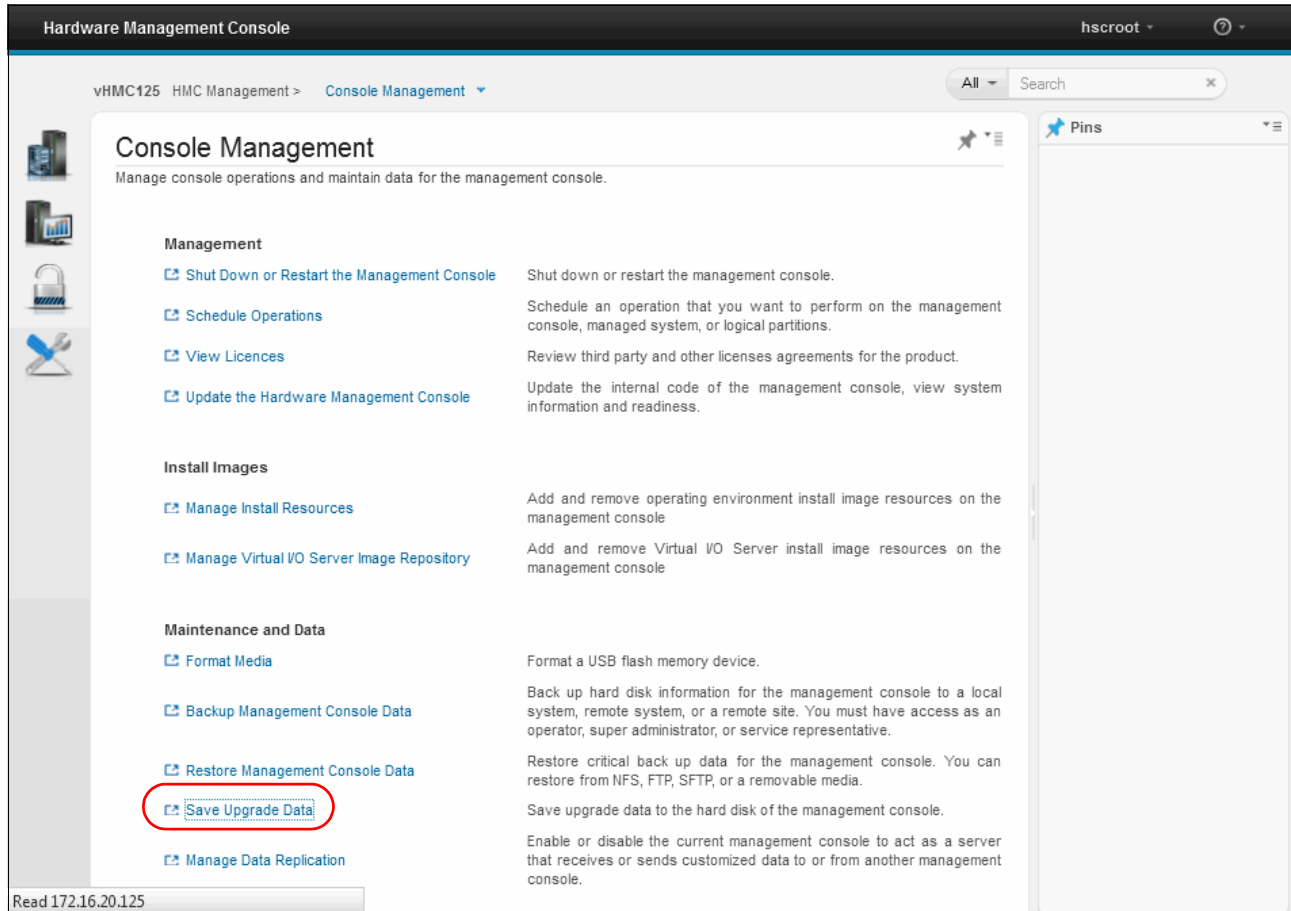

Figure 3-123 Save Upgrade data
1. In the navigation pane, click **HMC Management** → **Save Upgrade Data** (Figure 3-123).